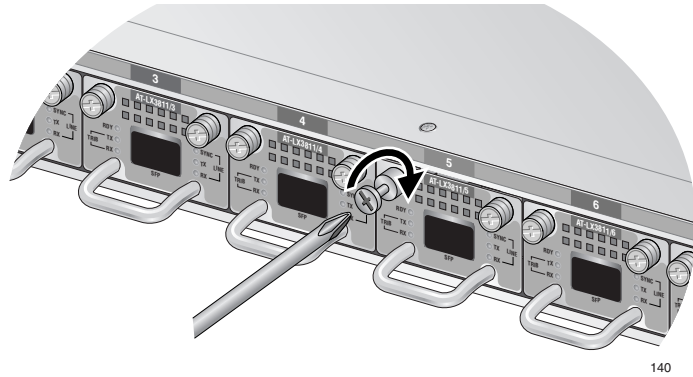

Figure 25. Tightening the Captive Screws
8. Use a Phillips head screwdriver to tighten the captive screws on the line card, as shown in Figure 25.